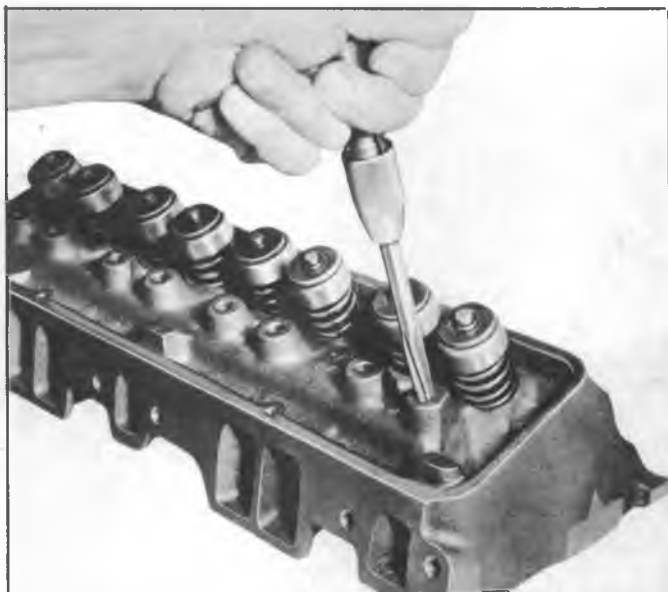

Fig. 20--Reaming Rocker Arm Stud Bore
2. Ream hole for oversize stud using Tool J-5715 for .003" oversize or Tool J-6036 for .013" oversize (fig. 20).